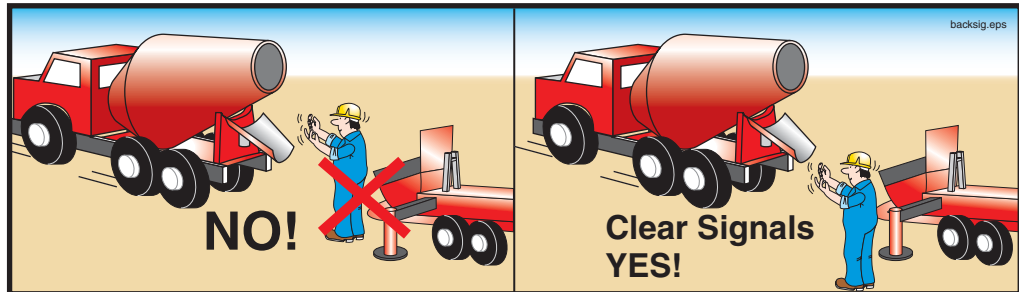

Figure 42
8.6 **⚠ WARNING** **Crushing hazard!** Never, ever position yourself between a ready mix truck and the pump! Stand off to the side, so the ready mix driver can see you at all times (Figure 42).
8.7 **⚠ WARNING** When backing in ready mix trucks, use clear and concise hand signals (Figure 42).